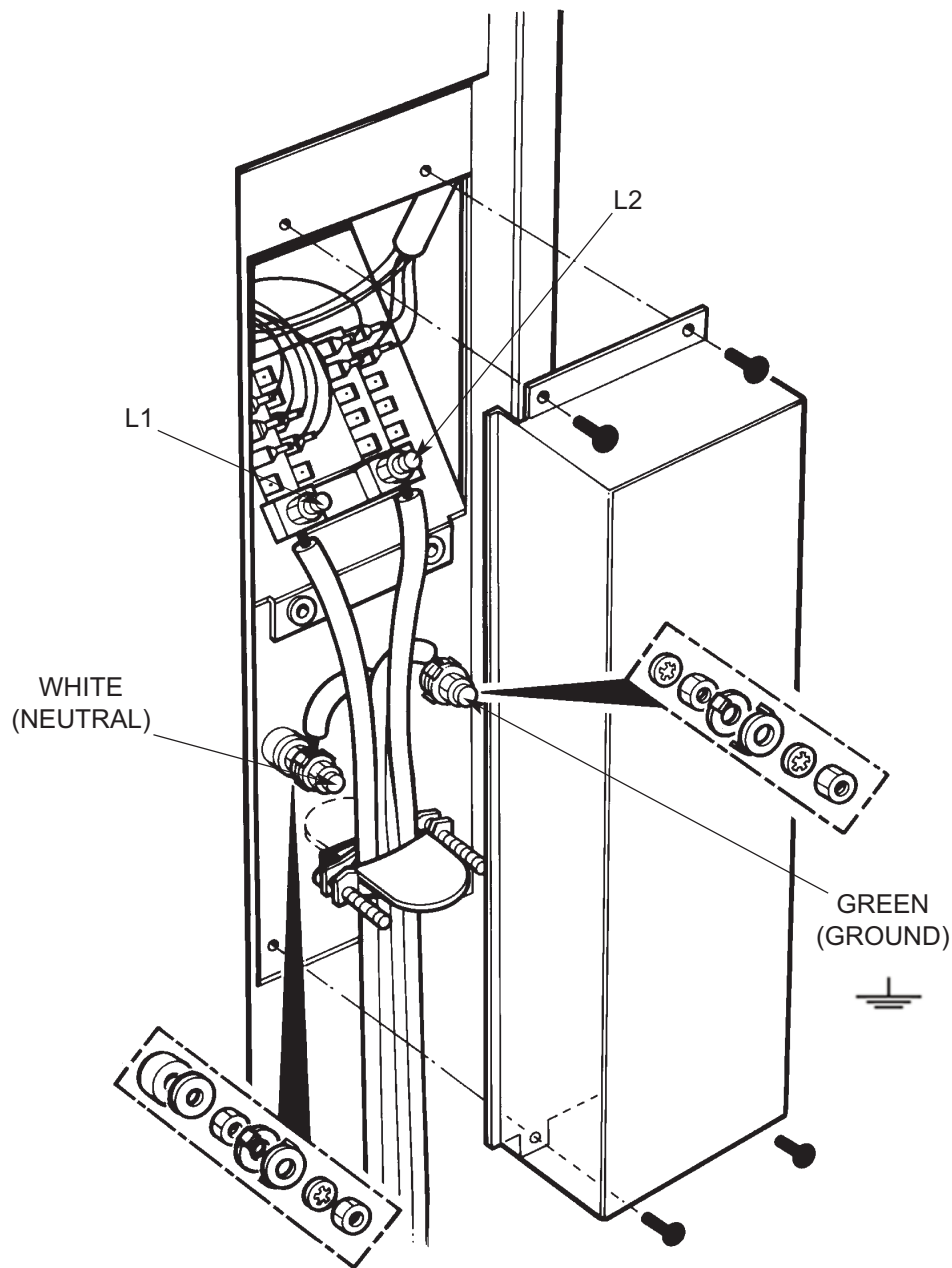

Fig. 9
Connect mains wire to terminal block at the rear of the cooker (See Fig. 9). Sufficient cable should be available to allow cooker to be removed for service.
- Local codes permit the use of a U.L.-listed, 250-volt, 30-amperes power cord (pigtail). This cord contains four No. 10 copper wires and matches a four-wire receptacle of type 14-30R shown in Fig. 9. Connectors on the appliance end must be provided at the point the power supply enters the appliance.